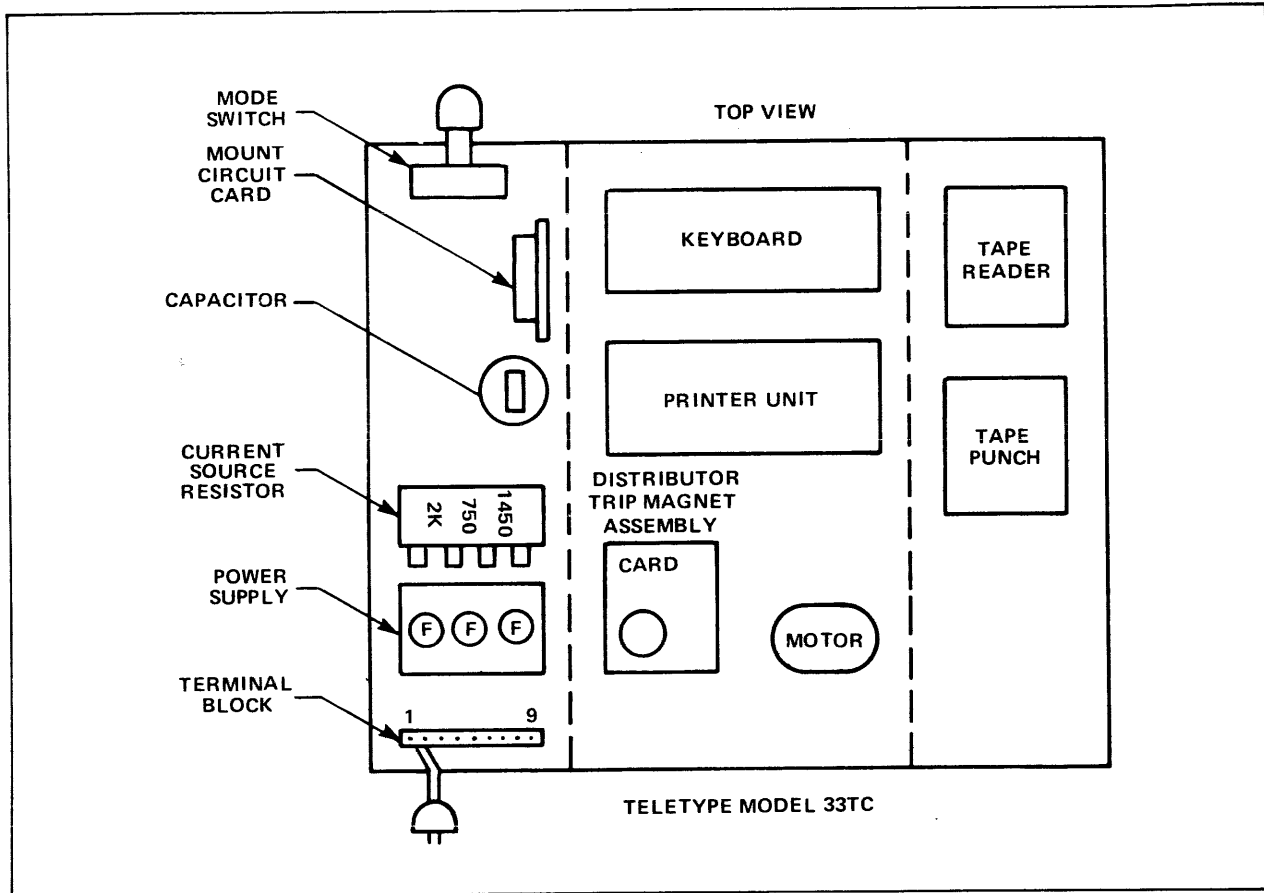

Figure B-1. Teletype Component Layout
- a. Remove blue lead from 750-ohm tap on current source register; reconnect this lead to 1450-ohm tap. (Refer to figures B-1 and B-2.)
- b. On terminal block, change two wires as follows to create an internal full-duplex loop (refer to figures B-1 and B-3):